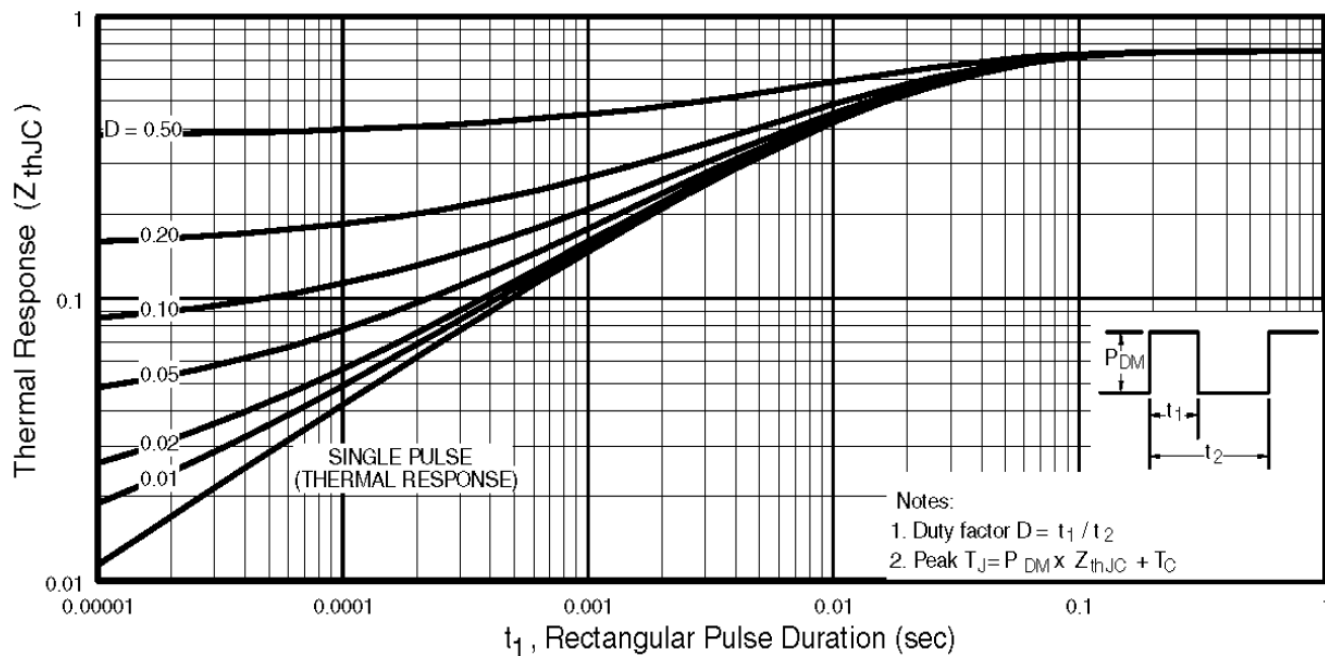

Fig 11. Maximum Effective Transient Thermal Impedance, Junction-to-Case
- ⁽¹⁾ Repetitive rating; pulse width limited by max. junction temperature. (See fig.11)